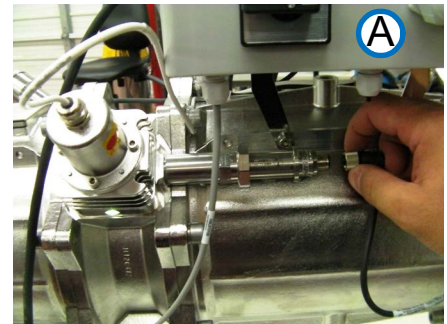

Figure 10-45: Removing connector A (Generic View)
- Step 1.** To disconnect the harness connector (shown in view A, **Figure 10-45**), unscrew the sensor's threaded locking nut.